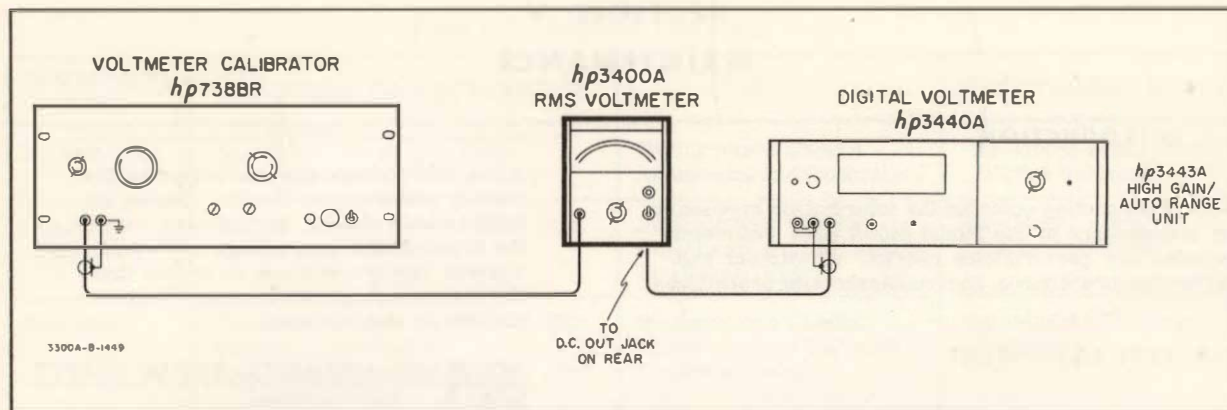

Figure 5-1. Accuracy, Linearity, and DC Output Test Setup
5-8. The accuracy, linearity, and dc output test setup is illustrated in Figure 5-1. A Voltmeter Calibrator -hp- Model 738B and a DC Voltmeter -hp- Model 3440A/3443A) are required for this test.
- a. Connect test setup illustrated in Figure 5-1.
- Connect test setup illustrated in Figure 5-1.
- Connect test setup illustrated in Figure 5-1; omit the DC Voltmeter.